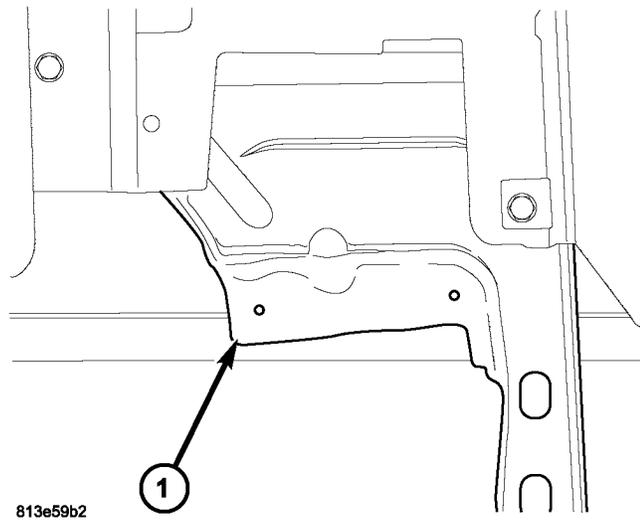

Fig. 3 CUP HOLDER BRACKET
7. Operate the cup holder out of the vehicle. If the cup holder still binds it must be replaced. If it operates freely, inspect the metal bracket where the cup holder fasteners attach as shown. (Fig. 3). If the bracket is bent, it could cause the cup holder to twist or distort when the screws are installed. Straighten the bracket and install the cup holder. If the cup holder operates freely the repair is complete. if the cup holder still binds, it must be replaced.